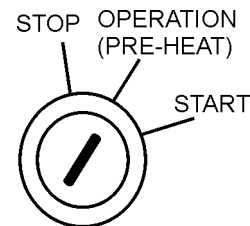
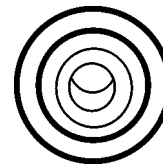

Figure 42. Ignition Switch (Operation Pre-Heat Position)
Figure 43. Pre-Heat Indicator Lamp
6. Preheat the engine **glow plugs** by turning the ignition key (Figure 42) to the "**OPERATION**" position.
7. When the preheat lamp illuminates (Figure 43), turn the ignition key to the "**START**" position. Once the engine starts, release the ignition key and allow it to return to the "**OPERATION**" position (Figure 42).